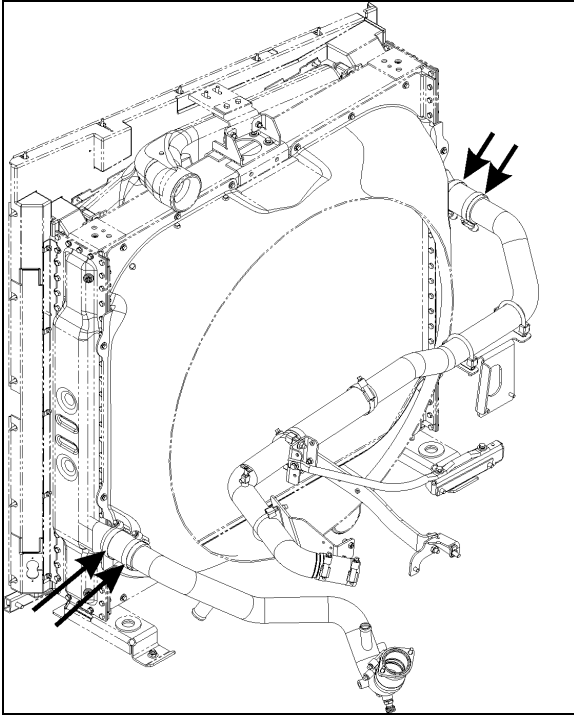
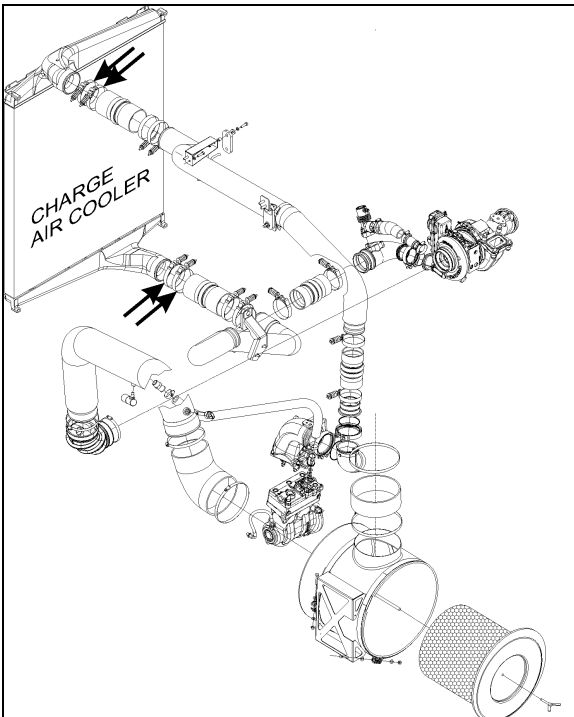

FIGURE 12: RADIATOR HOSE CLAMPS
FIGURE 13: CHARGE AIR COOLER HOSE CLAMPS
10. Remove clamps and then break hoses from the front coolant and charge air pipes (Figure 12 & Figure 13).
11. Remove rear coolant and charge air hose clamps then break hoses loose (Figure 12 & Figure 13).